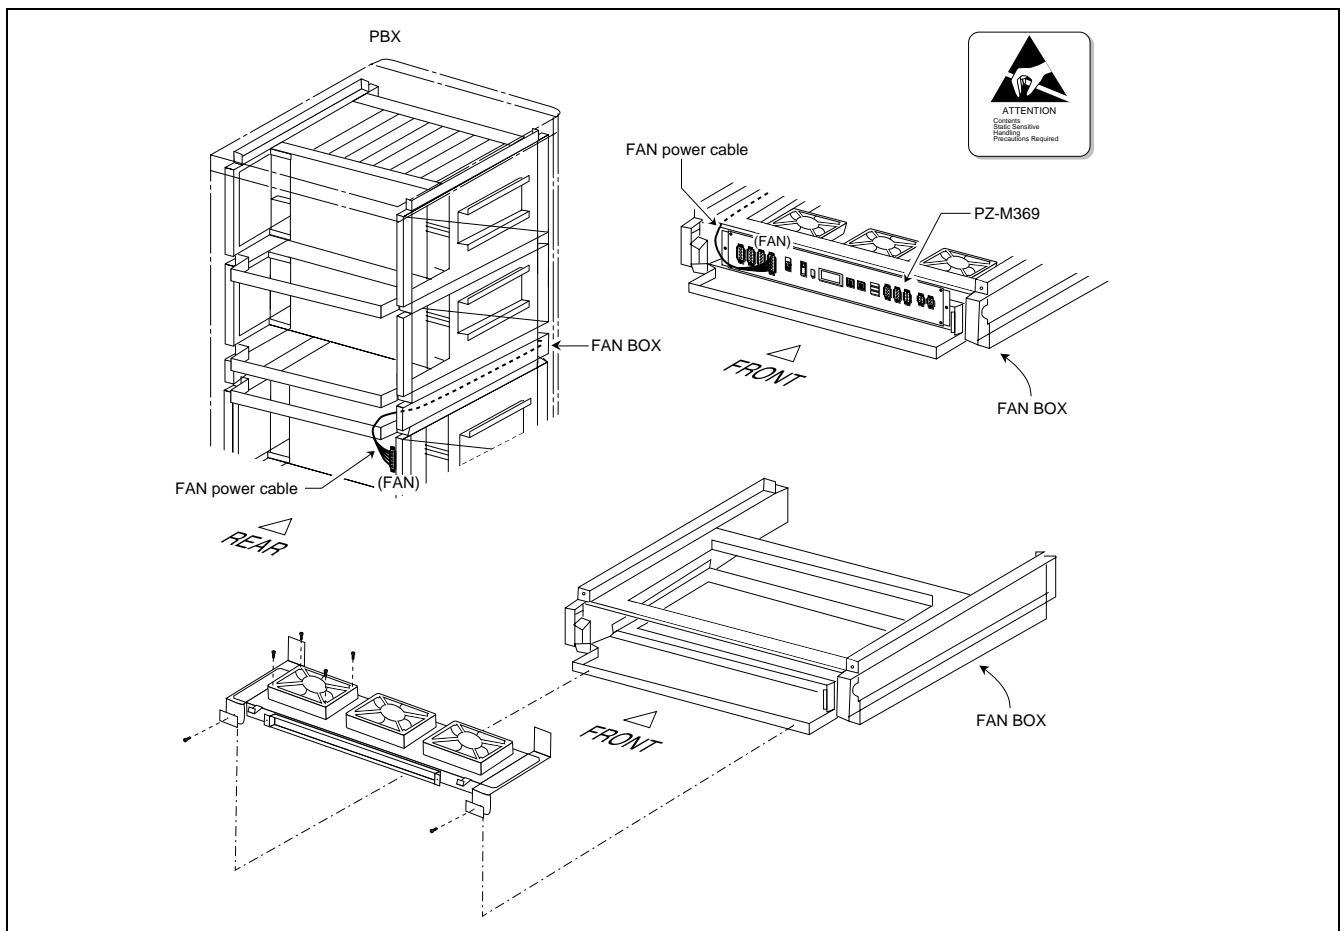

Figure 4-21 How to Replace FANU (Fans in Fan Box)
STEP 5 Take off the four screws fastening the fan to be replaced. (Refer to Figure 4-21.)